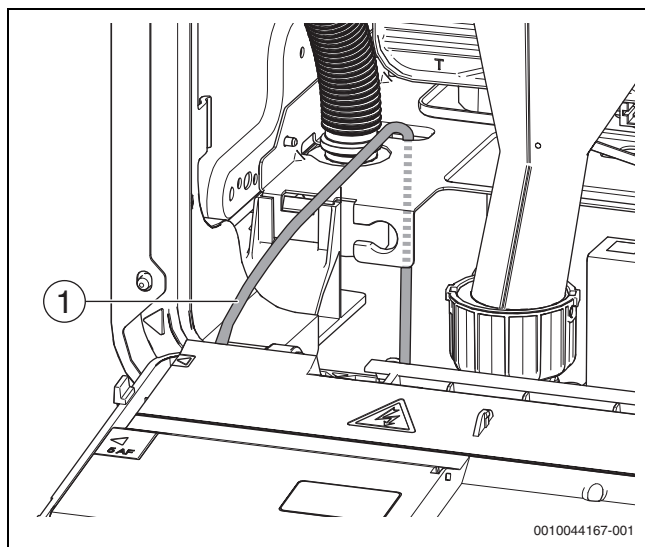

Fig. 51 Mains supply cable routing
- Mains supply cable routing must be routed through the hole in the bottom plate → Figure 51.